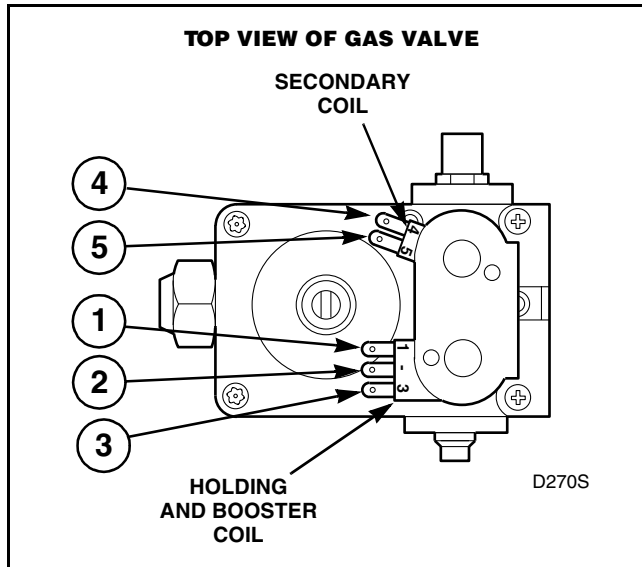
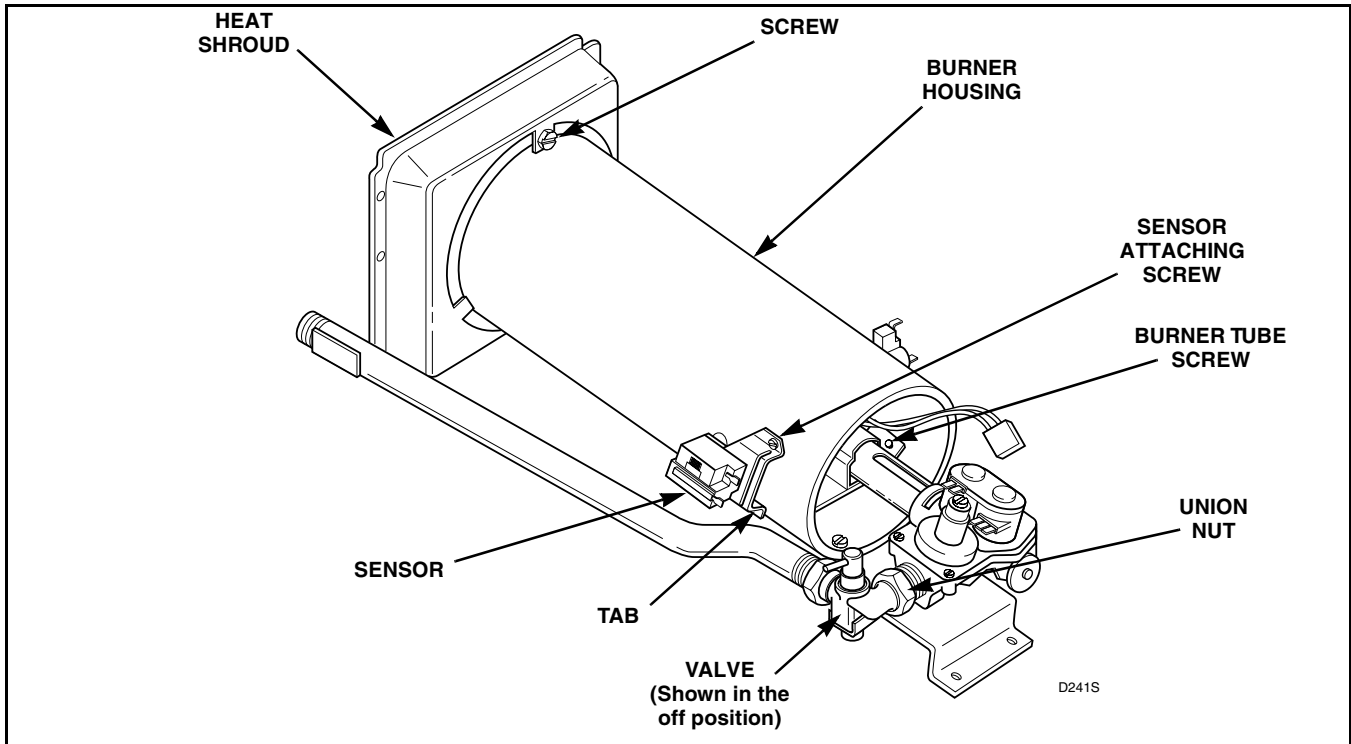

Figure 17
Figure 18
- (2) Gently move burner tube toward rear of dryer to disengage tab from slot on left side of burner housing. Refer to *Figure 18*.
- (3) Carefully rotate burner tube and igniter counterclockwise so tab is at 8 o'clock position.
- (4) Move air shutter end of burner tube slightly to right and CAREFULLY remove burner tube and igniter assembly out through front of dryer.
- (5) Remove screw holding the igniter and bracket to the burner tube and remove igniter and bracket. Refer to *Figure 17*.
1. Remove wires from sensor terminals. Refer to *Figure 18*.
- (4) Remove wires from sensor terminals. Refer to *Figure 18*.
- (5) Remove screw holding sensor to burner housing. Refer to *Figure 18*.
- Remove screws holding burner housing to heat shroud. Refer to *Figure 18*.